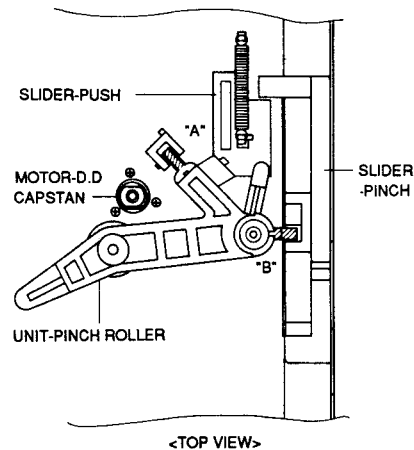

Fig. 29 Assembly of Unit Pinch Roller
- 1) Install the unit pinch roller as shown in Fig. 29. (Refer to A, B)